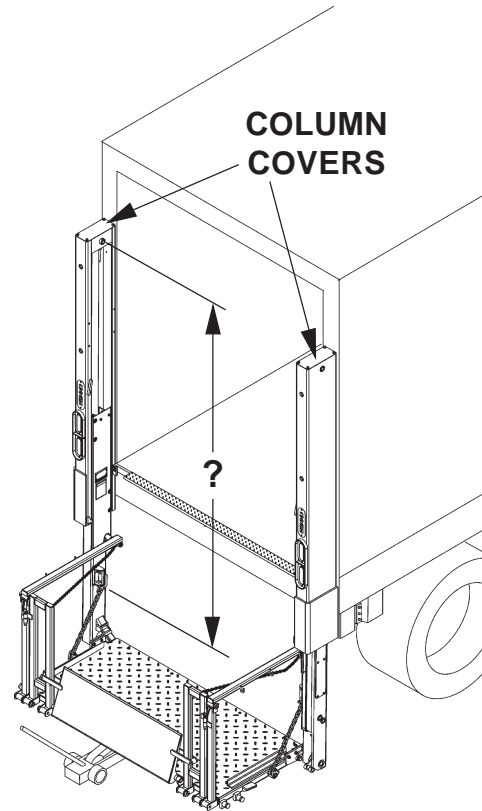

FIG. 5A
1. Raise the open Platform about 20" above the ground. Place a jack and jack stands under the Platform (**FIG. 5A**) and support Platform on jack and jack stands. Measure and record the distance between the Upper and Lower Cylinder Pins. Keep measurement for reference when installing new Cylinder.
2. Remove Cover from the top of the Column (**FIG. 5A**).